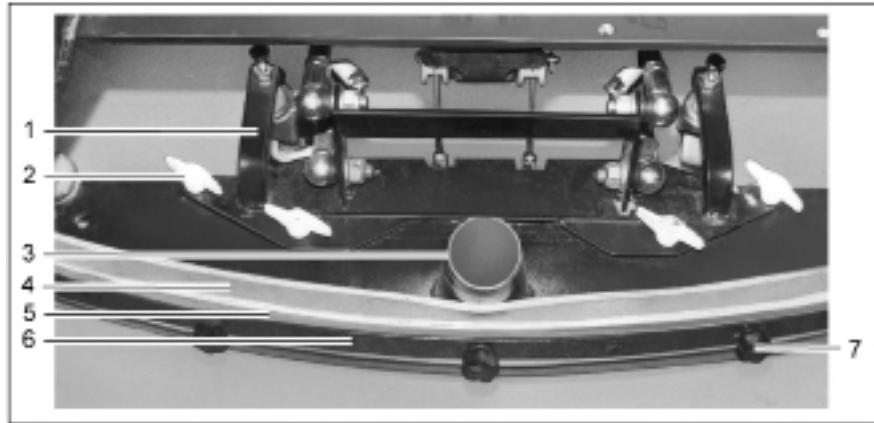

Fig 34
5. Pull the suction hose from the connection nozzle (Fig. 34/3) of the squeegee.
6. Loosen the wing nuts (Fig. 34/2) on the holding attachment.
2. Unscrew the knurled nuts (Fig. 34/7).
3. Remove the clamping rail, support strip and sealing strip (Fig. 34/4-6).